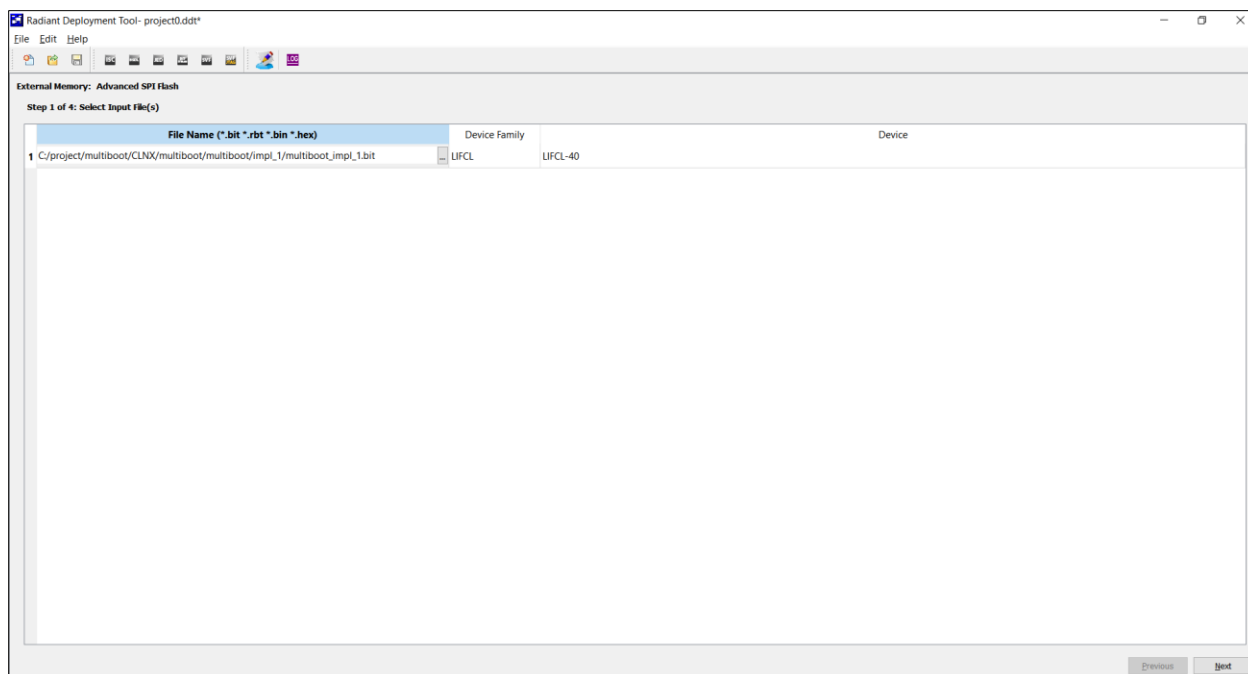

Figure 6.6. Step 1 of 4: Select Input File(s)
- a. In Step 1 of 4: Select Input File(s), select a .bit file for **File Name** and click **Next** (Figure 6.6). This is the Primary Image.